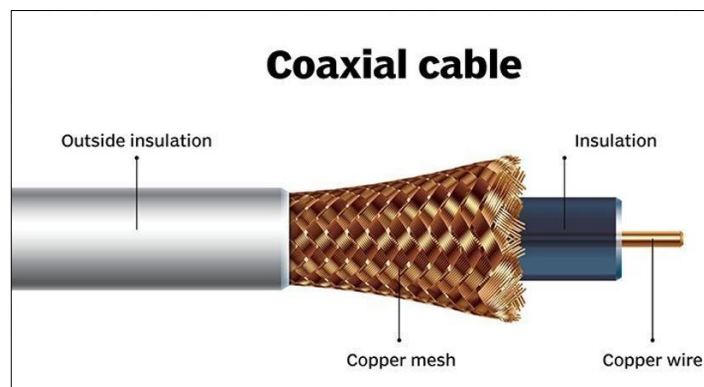

Figure 1: Coaxial cable
A coaxial cable consists of an inner conductor with an insulating layer surrounding it. That insulating layer is then covered by a conductive shielding or an outer insulating jacket. Electrical signals flow throughout the central conductor which is typically made of copper-clad steel (See fig. 1). Coaxial cabling is highly resistant to signal obstruction, in addition, it can support greater cable lengths between network devices than twisted pair cable, although it can be complex to install. Sometimes known as coax cable, is an electrical cable that transmits radio frequency (RF) signals from one point to another. The technology has been around since the early 20th century, with these cables mainly being used to connect satellite antenna facilities to homes and businesses thanks to their durability and ease of installation.